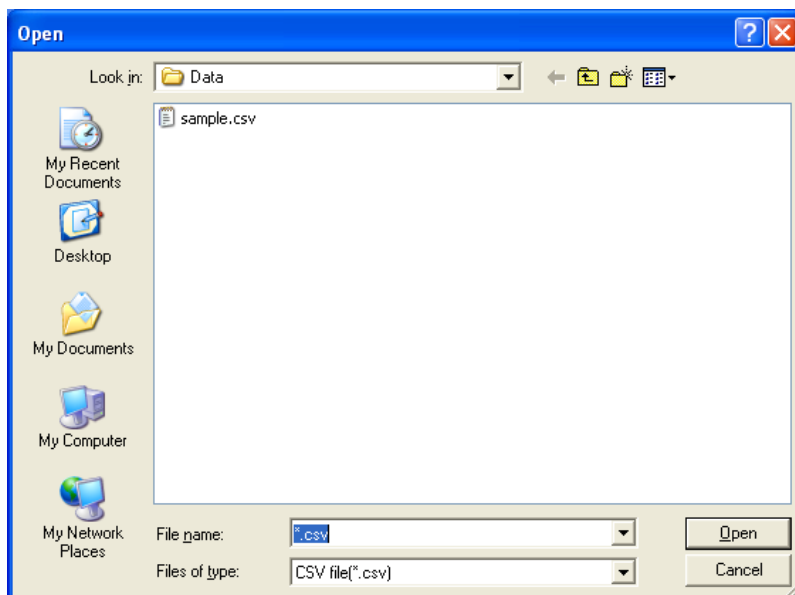

Fig. 6-4 File selection
- (1) From Work selection Window, select [File open], and click on [OK] (Fig. 6-4).